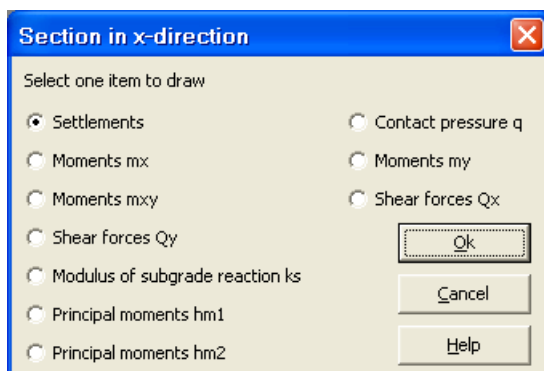

Figure 10-42 "Section in x -direction" option box
- Choose "Section in x -direction" command from "Sections" menu. The following option box in Figure 10-42 appears